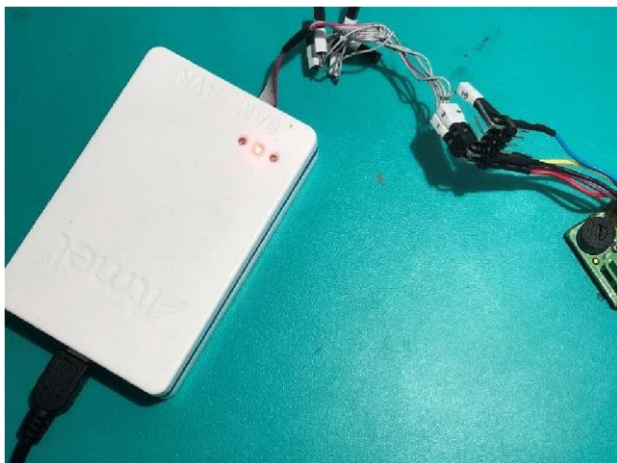

Figure 5.1
1. Connect one end of Atmel ICE to PC using Micro-B cable and the other end to programming adapter which has five different colored wires-Red, Purple, Black, Yellow and Blue as follows and the same is shown in the figure 5.1. And then connect the programming adapter to the board.